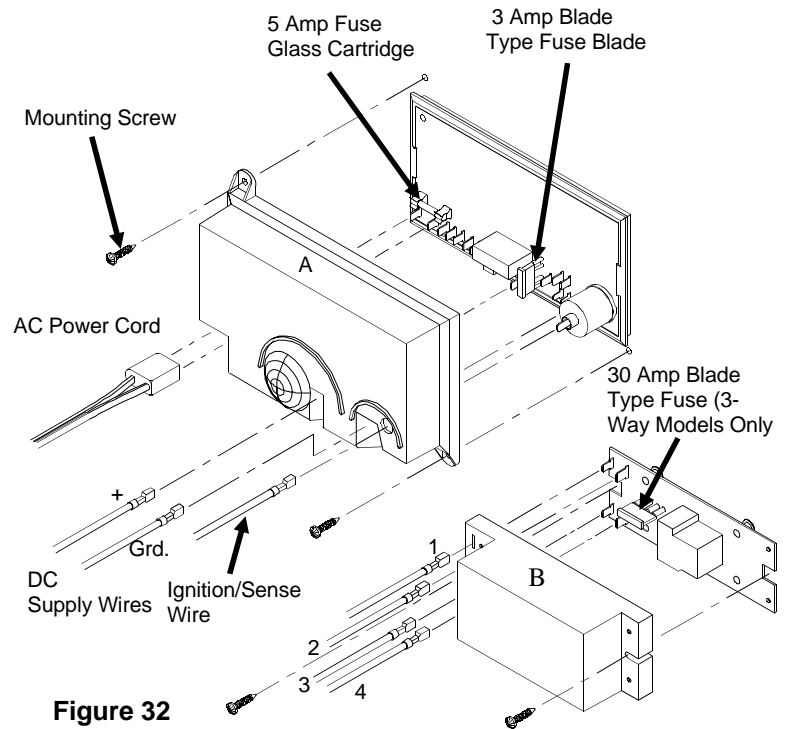

Figure 32
3. Disconnect AC power cord from power board cover (A) at rear of refrigerator.
7. For 3-Way models, disconnect the supply wires from the DC module (B) as shown in Figure 32.
- E. Remove two screws which secure DC module board cover (B) to refrigerator.